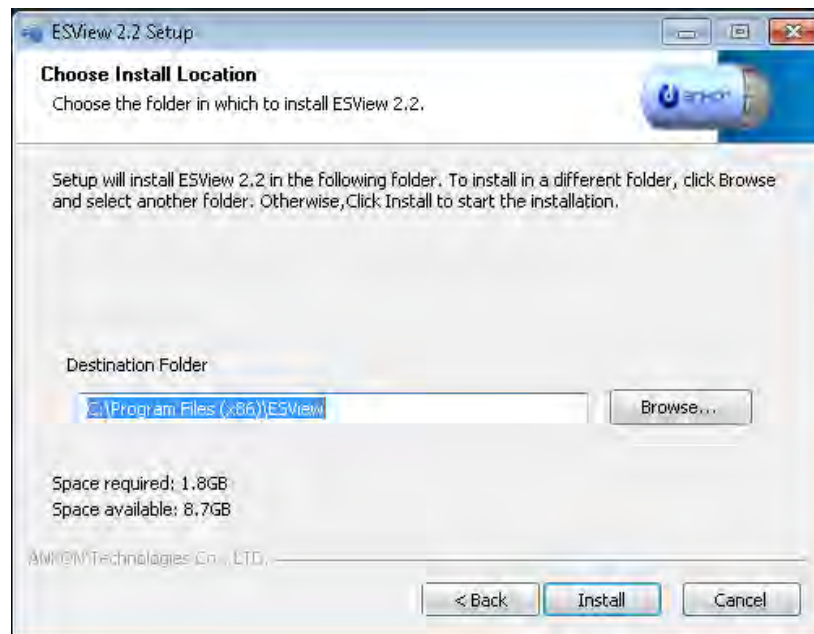

Figure 3-3: Selection of Installation Directory
3. The dialog box for selecting the destination folder (Figure 3-3) is displayed. The default installation directory is C:\Program Files(x86)\ESView. Click “Browse” to change the directory. Click “Install” to continue installation in the selected directory.